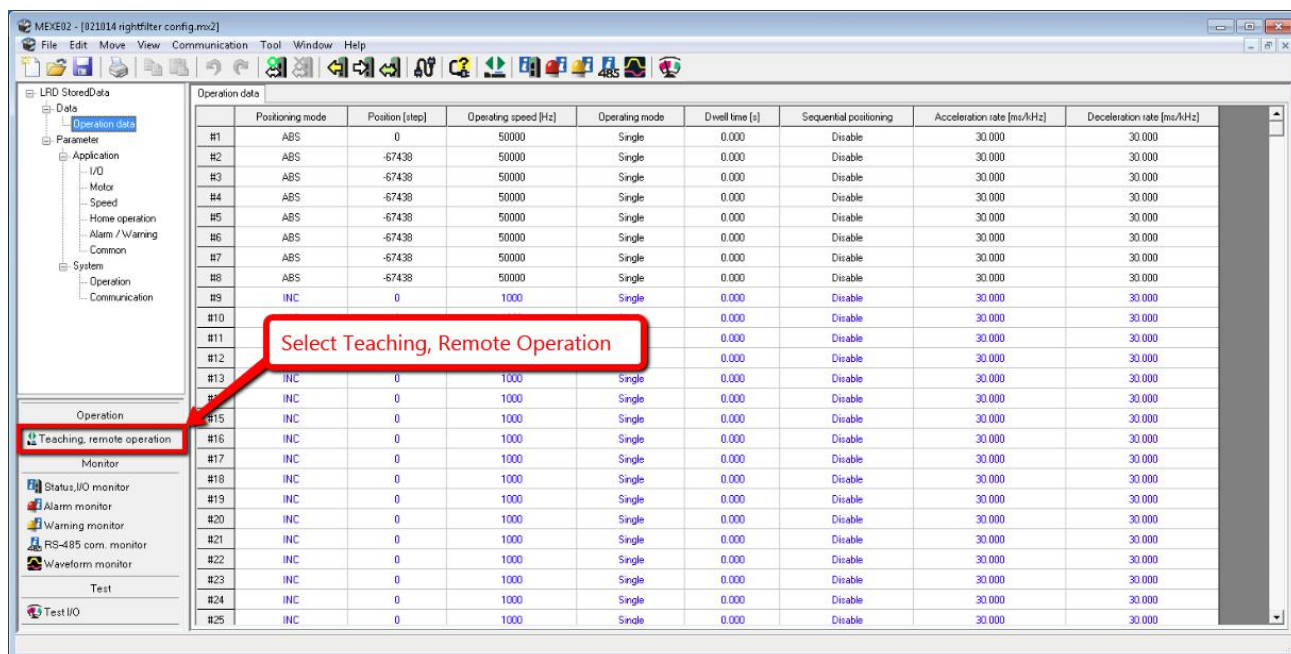
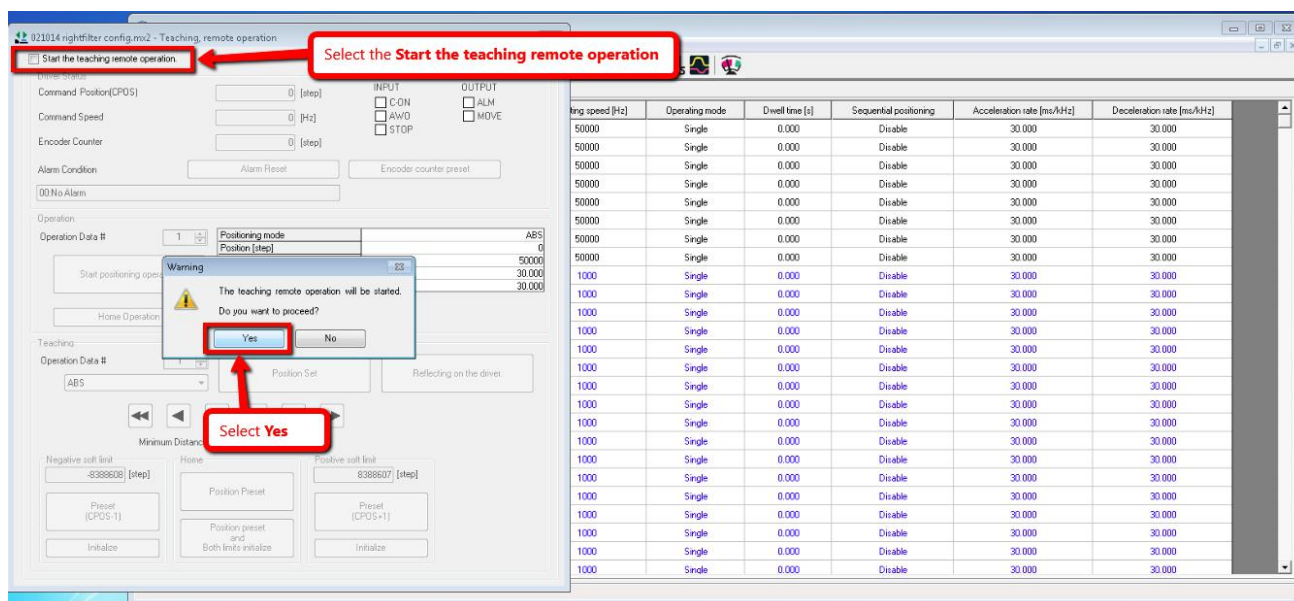

Figure 16 Teaching mode
Figure 17 Start the teaching remote operation
15. Select the Teaching, remote operation as shown in the Figure 16. Start the teaching remote operation as shown in the Figure 17 and then press OK.